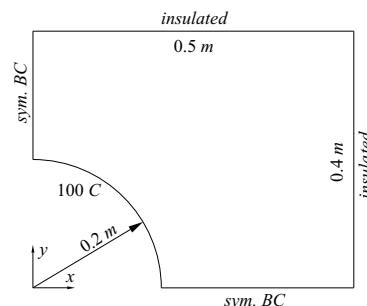

Figure 1: Heated Plate
2. Consider the plate shown in figure 1 below. The curved boundary is subjected to the harmonic temperature  $T(x, t) = 100C e^{i\omega t}$ . Modell and solve the problem in femlab. How does the frequency  $\omega$  affect the solution?